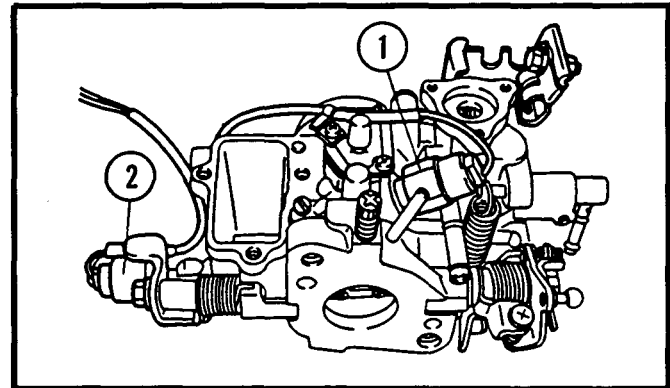

Figure 15.
1. Disassemble the throttle valve solenoid, and main fuel solenoid valve. See Figure 15.
1. Assemble the throttle valve solenoid and main fuel solenoid valves. See Figure 15.